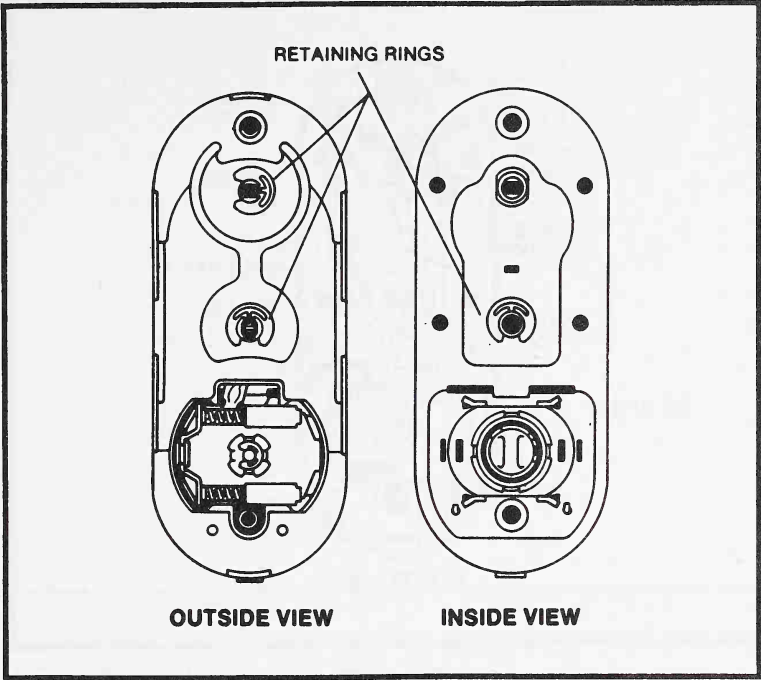

Fig. 18-72.
1. Disengage the retaining rings (Fig. 18-72).